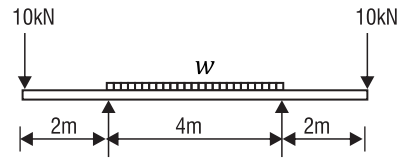

Figure 4.44
5. **Figure 4.44** shows a simple beam, supported at points 2 m from each end, carrying a point load of 10 kN at each end and a uniformly distributed load spread over the length between the supports. If the bending moment is zero at the mid-span, find the magnitude of the uniformly distributed load and sketch the shearing force and bending moment diagrams.